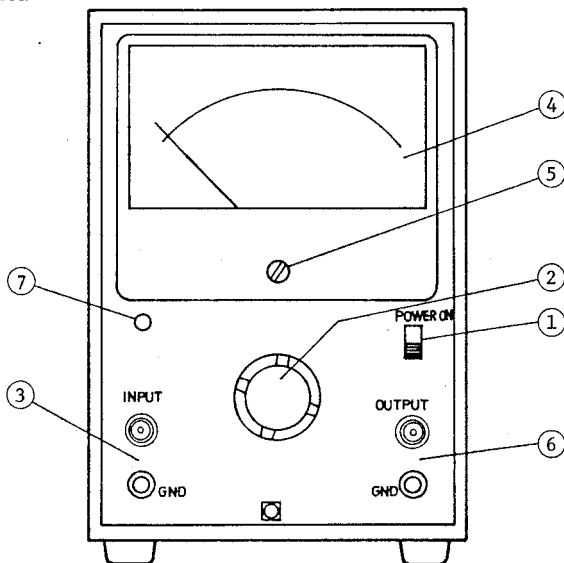

Figure 3-1
- (1) Turn OFF the POWER switch at the right-hand side on the front panel.
- (2) Check that the meter pointer is settled accurately at the zero scale position. If it is not, set it accurately in the zero position as explained in Item (5) "ZERO adjustment" of Sub-section 3.1 "Preparation for Measurement." (Refer to Figure 3-1.) If the voltmeter power has been OFF, turn it and allow more than 5 minutes so that the meter pointer is settled in a position close to the zero scale position
- (3) Connect the power cord to an AC power line outlet of 100 V (or other voltage to which the voltmeter has been converted), 50 or 60 Hz.
- (4) Set the RANGE switch in the highest voltage range (300 V or 500 V).
- (5) Turn ON the POWER switch. The POWER PILOT lamp will light indicating that the power is turned on. The meter pointer may deflect irregularly for about 10 seconds after the switch is turned ON (or OFF), but this is only transient and not an abnormal indication.
- (6) When the pointer is stabilized, the voltmeter is ready for measurement.